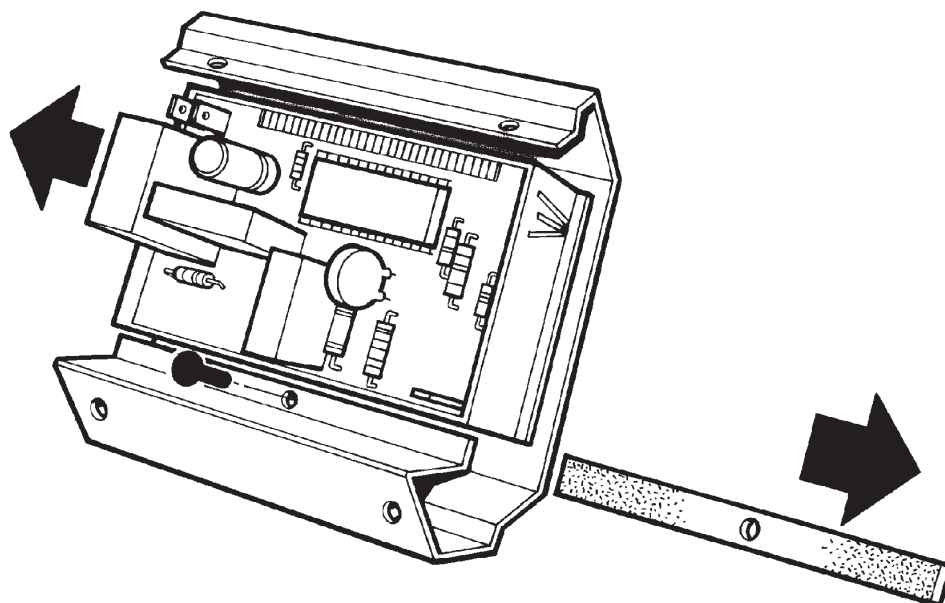

Fig. 27
6. Remove timer clamping screw, withdraw clamp and lift out timer. (See Fig. 27).